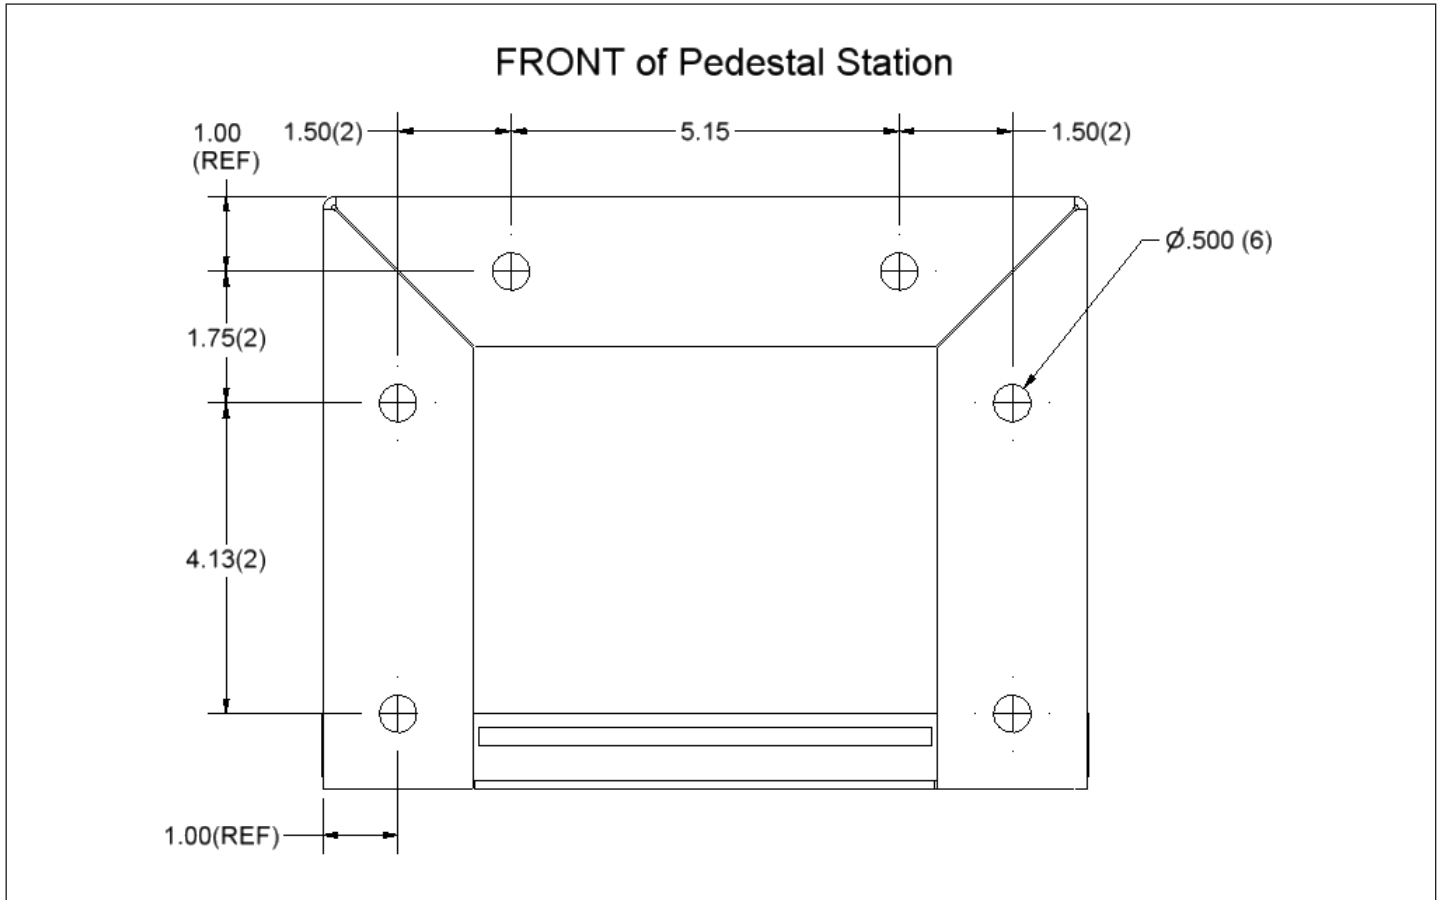

Figure 8. Base Detail Pedestal for EVSE.
- Step 3:** The hole pattern for the base of the pedestal mount is shown below in **Figure 8**. Eaton recommends using six, 3/8 UNC Grade 5 stainless bolts torqued at 50 ft-lbs for mounting base to the ground. Mounting hardware is not included.